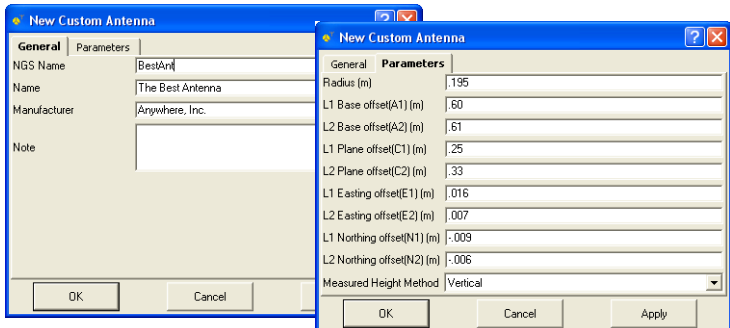

Figure 5-11. New Custom Antennas – General and Parameters Tabs
- On the *General* tab, edit the *NGS Name*, *Name*, *Manufacturer*, and *Note* fields (Figure 5-11). Then click **Apply** to save the information.
- Click the **Parameters** tab and enter the *Radius*, *offsets*, and *Measured Height Method* for the antenna (Figure 5-11).